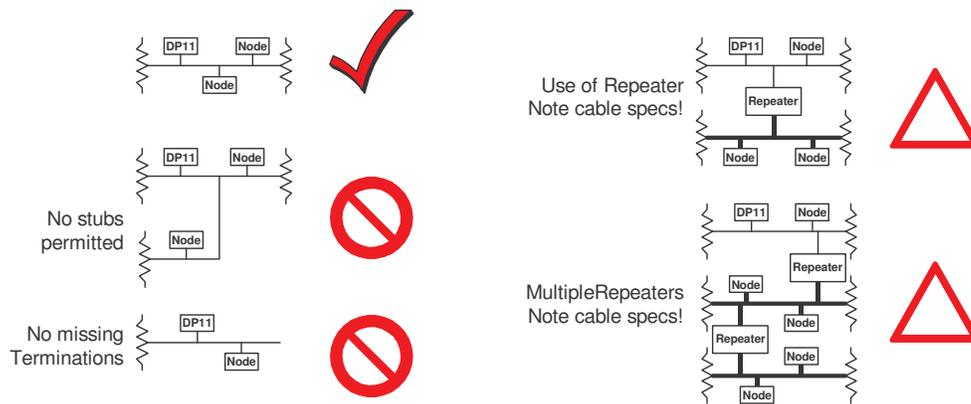

Figure 2 RS 485 Cabling Topologies
6. Beyond any repeater the cable must be 2-pair with one pair connecting the COM terminals and the second pair connecting the TRX terminals. In figure 2 the 2-pair cable as shown as fatter lines